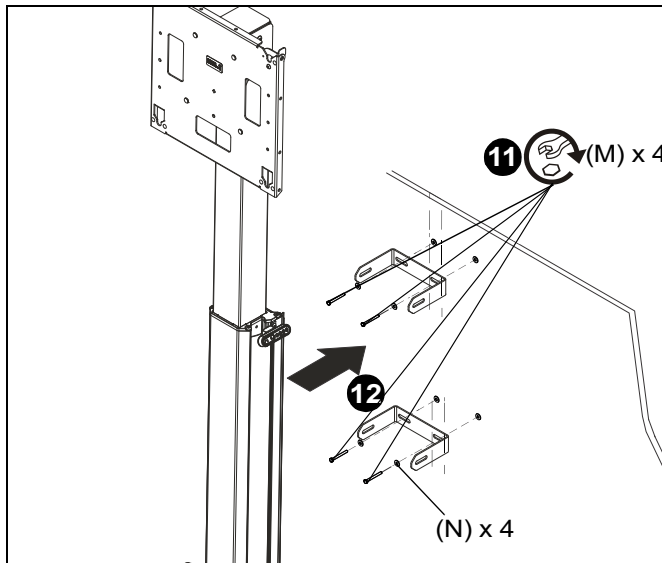

Figure 23
10. Place wall brackets (B1) over anchors and align mounting slots on mount with holes in anchors. (See Figure 23)
11. Install four 1/4-20 x 1-3/4" Phillips pan machine screws (M) through 1/4" washers (N) and slots on wall bracket (B1) and into toggler anchors (L). (See Figure 23)
12. Position column assembly (P) inside two installed wall brackets (B1). (See Figure 23)